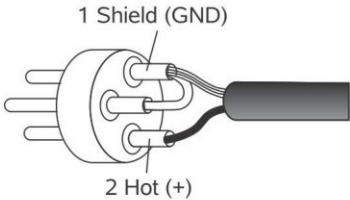

FIG. 3
- Connect a speaker system (8 ohm / 4 ohm / 2 ohm) on the output terminal of each channel. It is recommended to use the speakon connectors and wire these as per fig. 3 on page No. 9 (Output Connections for Stereo / Parallel Mode)
- Connect the Left & Right output of the Audio mixing console to the respective inputs of the Active Crossover. Connect the Left & Right high frequency output of the active crossover to the respective input channels A & B of amplifier 1. Inputs can be wired as per fig. 1 & 2 on page No. 9 (Input connections for Balanced & Unbalanced Mode) One no. of full range loudspeaker system can be connected to each of the channels of amplifier 1. The output speakon connectors should be wired as per fig. 3 on page No. 9 (Output connections for Stereo / Parallel Mode)
- Output speakon connectors to be wired as per fig. 3 on page No. 9 (Output connections for Stereo / Parallel Mode).